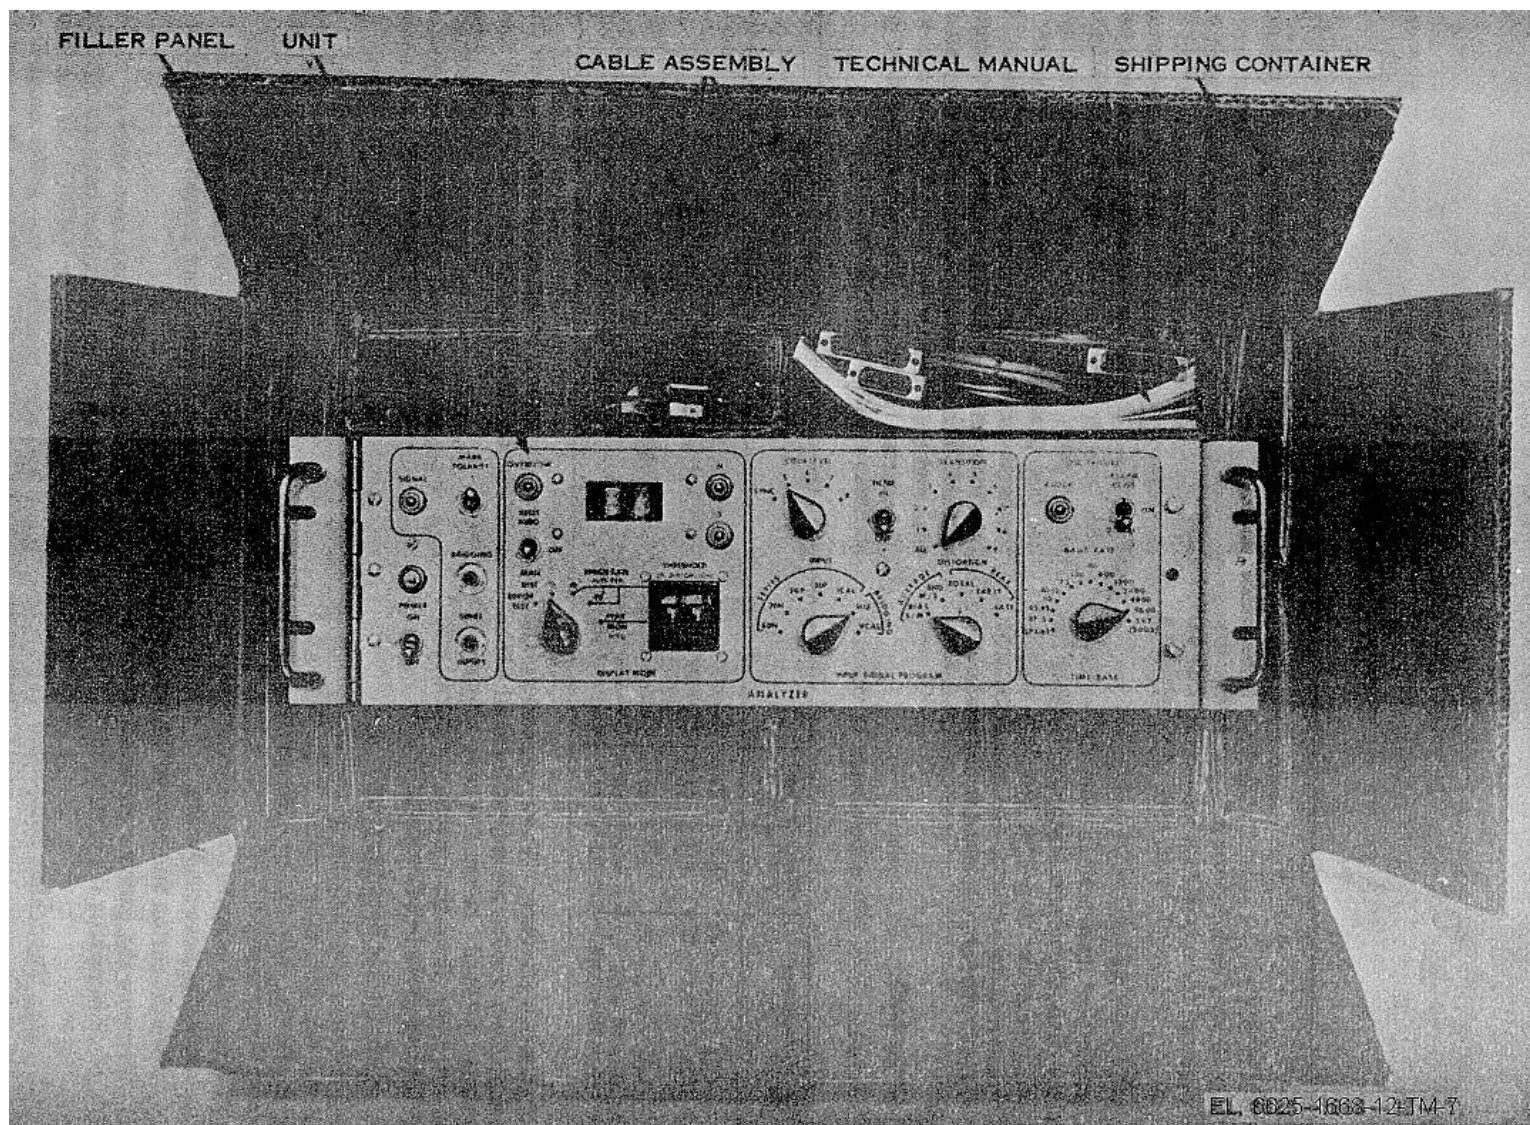
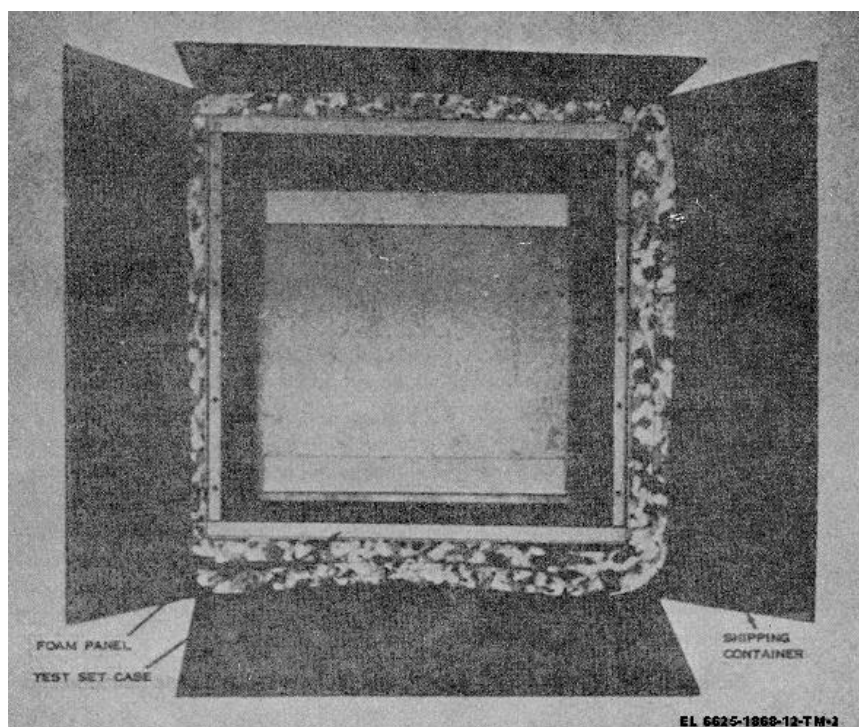

Figure 2-1. TS-2862/GGM-15(V0, typical domestic packaging.
Figure 2-2. CY-6672/GGM-15(V), typical domestic packaging.
a. *Packaging Data.* The components of the test set are packed in individual cartons for domestic shipment. For overseas shipment, these cartons may be sealed in moisture-vaporproof wraps and inclosed wooden crates. Figures 2-1, 2-2 and 2-3 show the units packaged in the domestic cartons. Figure 2-1 shows the packaging of the analyzer. This carton also contains the interface cable, power cable, running spares, and technical manual. The generator and oscilloscope are packed in the same manner as the analyzer excluding the interface cable, running spares, and technical manual. The domestic packaging of the test set case and dolly are shown in figures 2-2 and 2-3. The carton numbers, dimensions, weights, and contents are listed as follows: